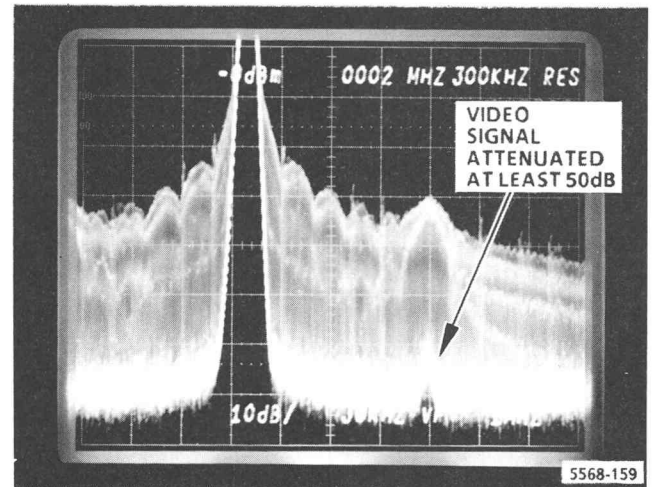

Fig. 4-27. Attenuated video signal.
- g. **CHECK** that the video signal noted in part e of this step is now attenuated by at least 50 dB. See Fig. 4-27.